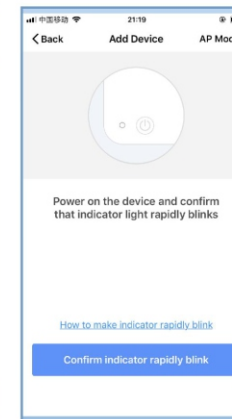
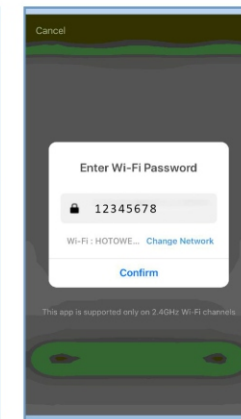

fig 3.2
fig 3.3
- Click “Confirm indicator rapidly blink” (Fig 3.2) then select your network and back to your App to enter the password of your wireless router(Fig.3.3) and confirm.